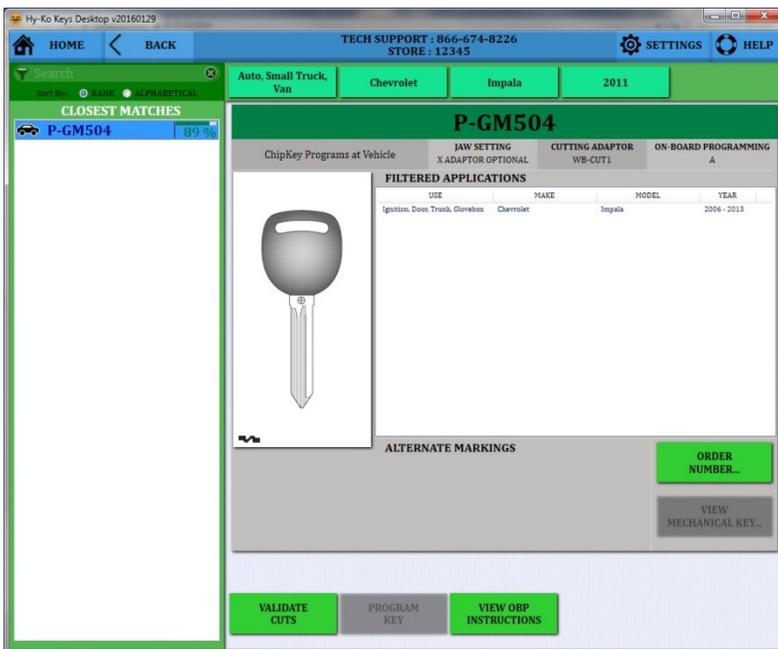

fig. 106
- Click on any key number to see the information on that particular key. An image of the blank and the cross section will be shown as well as other manufacturer part numbers and applications (see fig. 106).